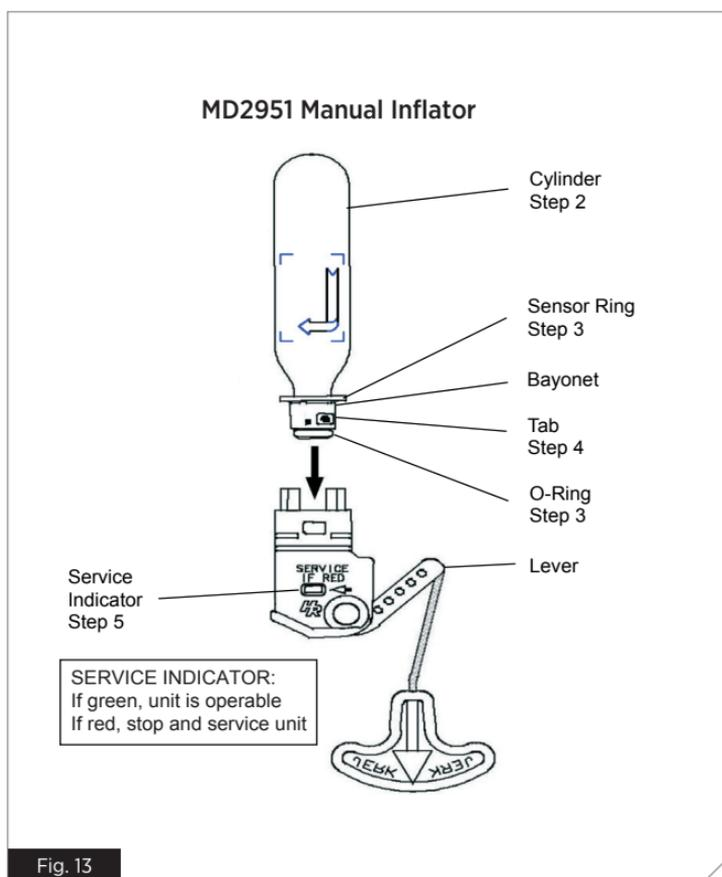

Fig. 13
1. Unpack or open the Inflatable PFD so that the inflator is exposed (Fig. 13).
5. Examine the service indicator (Fig. 13) and ensure it is **GREEN**. If the service indicator is red, the mechanism has been fired or is incorrectly fitted and the inflator requires service. (See Re-arming Your PFD (MD2951), p. 12).